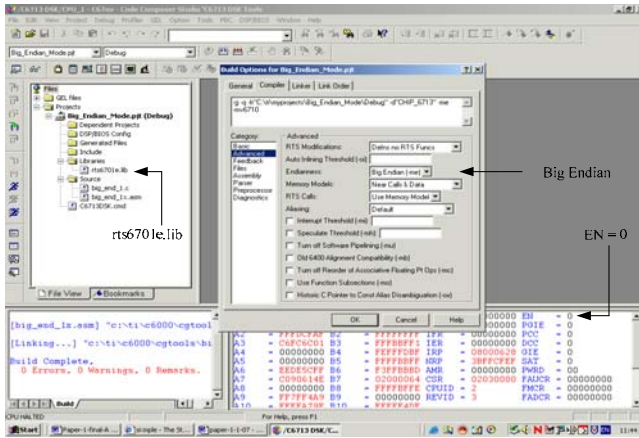

Fig. 3 A screen-shot of the CCS for big endian mode
2. As a result of step 1, EN in the Code Composer Studio must indicate **0**. This is read only register and indicates the mode of the DSK board. When EN=0, the DSK board operates in the big endian mode. The value of EN can be displayed in the CCS by **Clicking** View → **Clicking** Register → **Clicking** Core Registers as shown in Fig. 3.
3. The endianness of the TMS320C6713 DSK board needs to be set to Big Endian as shown in Fig.3. This can be done by **Clicking** Project → **Click** Build Options → **Highlight** Advanced and make sure the **Endianness** is set to **Big Endian** and press **OK**.